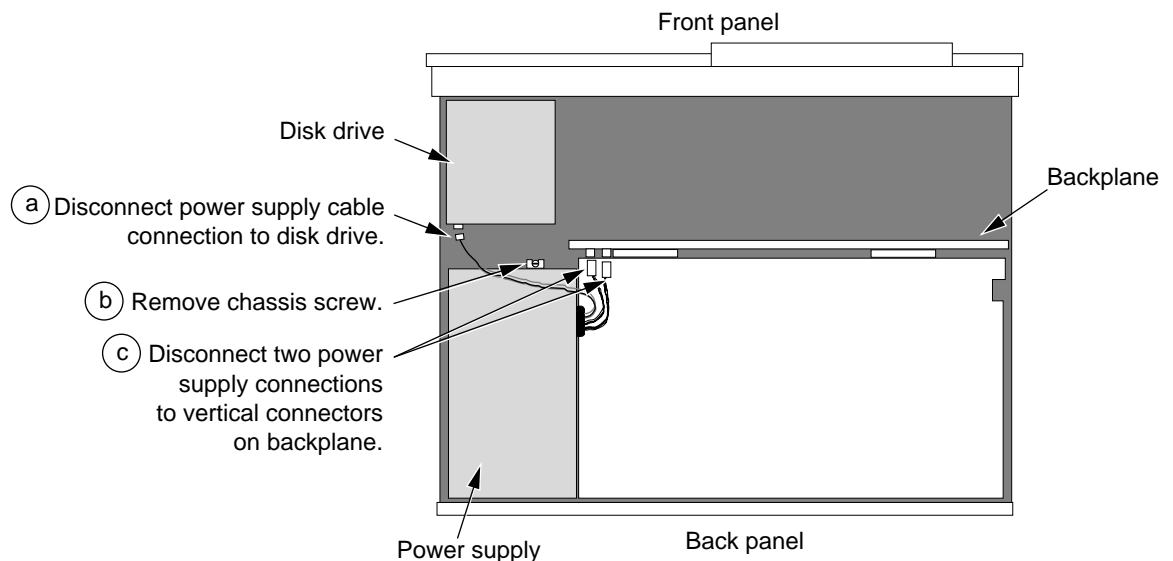

Figure 1-11 Disconnecting Power Supply Cables in the 4-Slot Chassis
- 4 Disconnect the cables that connect the power supply to the backplane and to the floppy disk drive, and remove the chassis screw as shown in Figure 1-11.